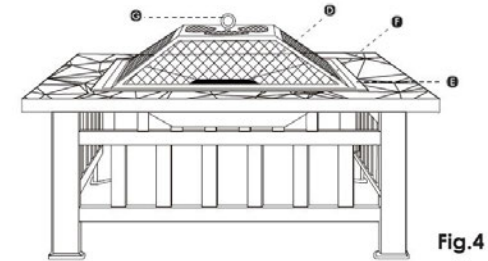

Fig.4
**Step 4)** Place Fire Bowl (E) in the center of Top Frame (A) and put Log Grate (D) in the Fire Bowl (E).Mount Lid Ring (G) on the Mesh Lid (F),Then place the assembled Mesh Lid over the Fire Bowl (E) (View Fig.4).